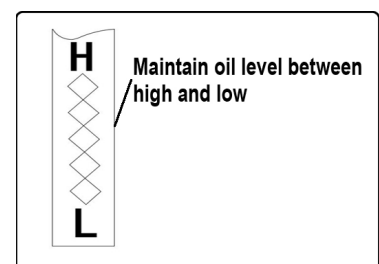

Figure 29
4. Unscrew and remove oil fill cap from oil filler tube. Note oil level. If oil reading on dipstick is below "LOW" mark, slowly add oil to reach "HIGH" level, see Figure 29.